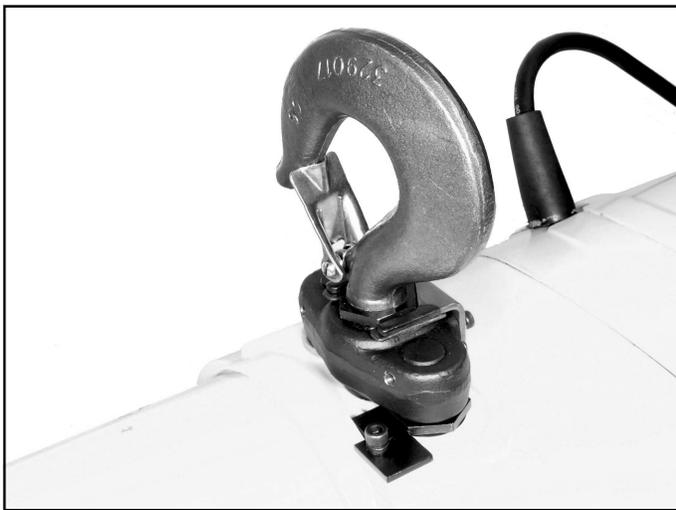

Figure 7-19. View of Upper Hook Assembled to Hoist Frame (2 Ton Models)
(2) On 2 ton models, unscrew two hex socket head screws holding suspension bushing lock assembly to upper bloc (fig. 7-19) and remove lock. Unscrew suspension bushing from block to remove hook. To disassemble block from frame, remove screw securing suspension bushing keeper. Remove drive pin securing threaded end of chain anchor in block and unscrew anchor. Unscrew suspension bushing to remove block.